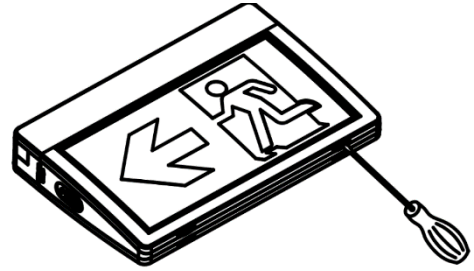

Fig 3
1. Open front cover by blade screwdriver (see Fig 3).